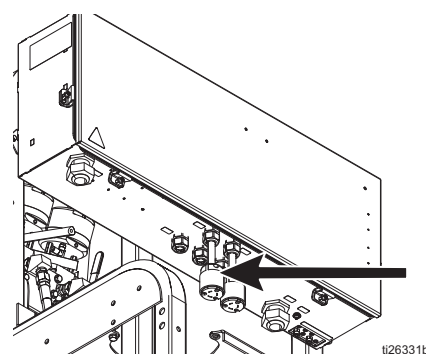

FIG. 2: Heater Power Cable
1. Use four bolts (4) to install the bracket (2) onto the system frame.
2. Use four bolts and nuts (4, 5) to install tank (1) onto bracket (2).
3. Follow **Connect Air Supply**, page 8. Connect air hose (8) to circulation pump (53) and diaphragm pump (P) on the PFP system.
4. Connect suction hose (F) to the flush pump and insert in the hot water flush tank.
- a. *Model 24Y132:* With the heater ON/OFF toggle switch (H) OFF, connect power cable to the corded receptacle hanging below the junction box on the XM PFP sprayer.
- b. *Model 24X113:* With the heater ON/OFF toggle switch (H) OFF, route the heater power cable through the Flush Heater cord grip. See FIG. 2, page 5. See system manual for power connection.